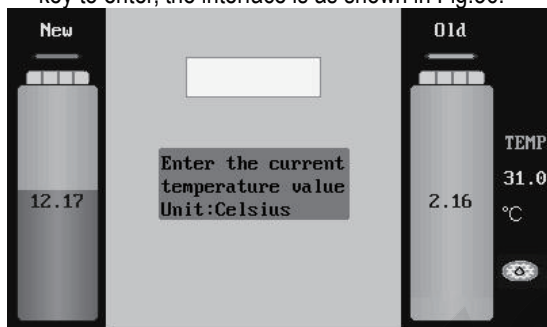

Fig.36
- 8) Select "Temperature Sensor" calibration item in Main Menu of [Sensor Calibration], and then press ENTER key to enter, the interface is as shown in Fig.36.